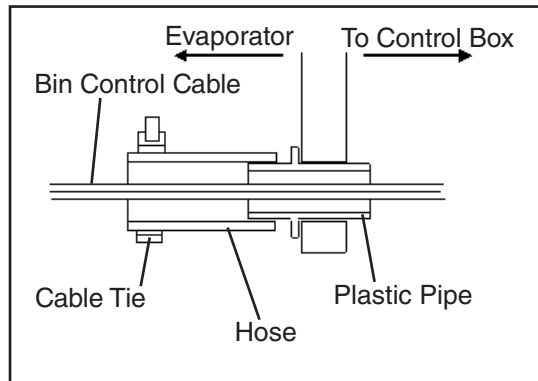

Fig. 12
- 7) Pull the bin control cable so that there is no slack in the ice drop area, then secure the hose that the bin control cable runs through with a cable tie. See Fig. 12.